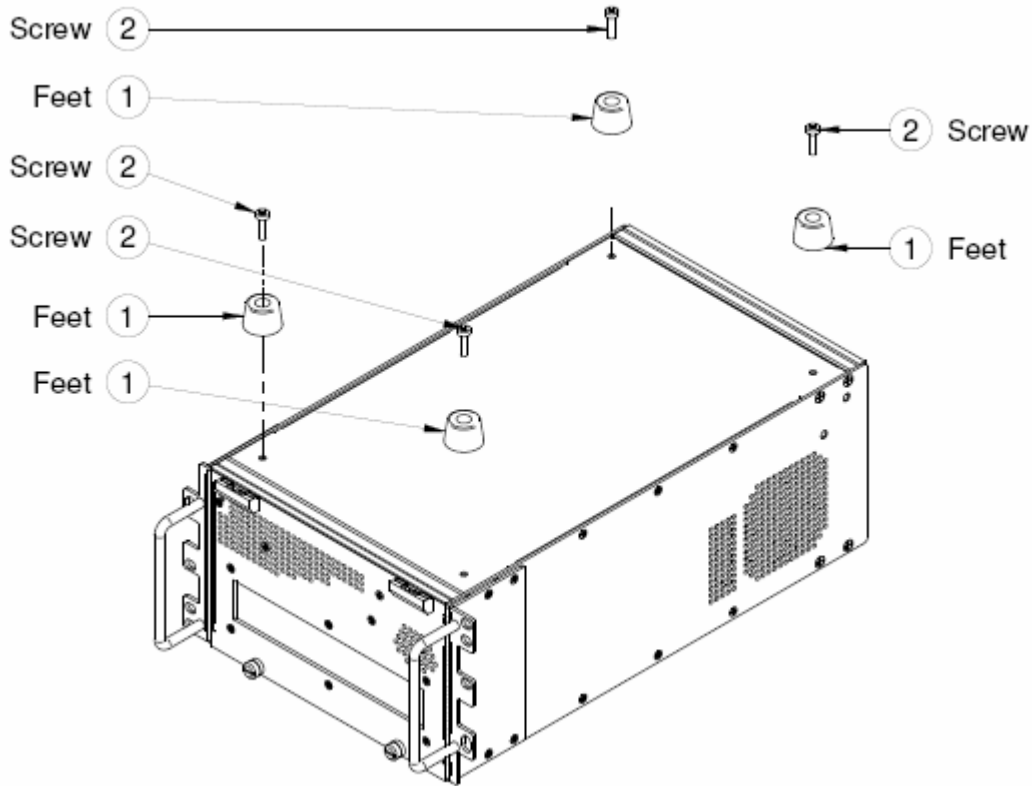

Figure 5-3: Rubber Feet Installation
1. Carefully turn the unit upside down as shown in Figure 5-3.